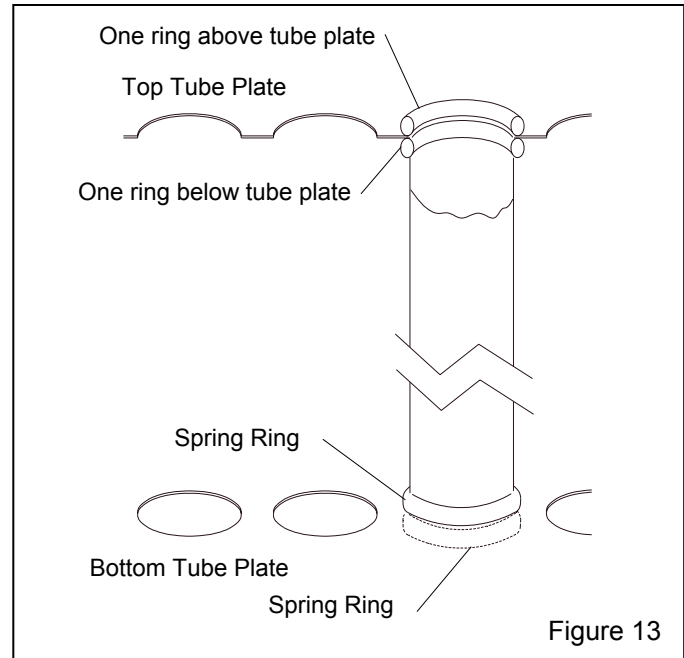

Figure 13
## 7.7 Dry Filter Tube Replacement, Figure 13
**7.7.1** Replace damaged filters immediately. Remove the old filters by pulling the spring rings off the bottom and top tube plates. Working from the back to the front, install one filter at a time. To install new filters, form the end of the spring ringed tubular filter into a shallow "c" shape, push the filter far enough into the hole of the top plate to allow one spring ring to snap into place above the tube plate and the other to snap into place below it. See the illustration in Figure 13.